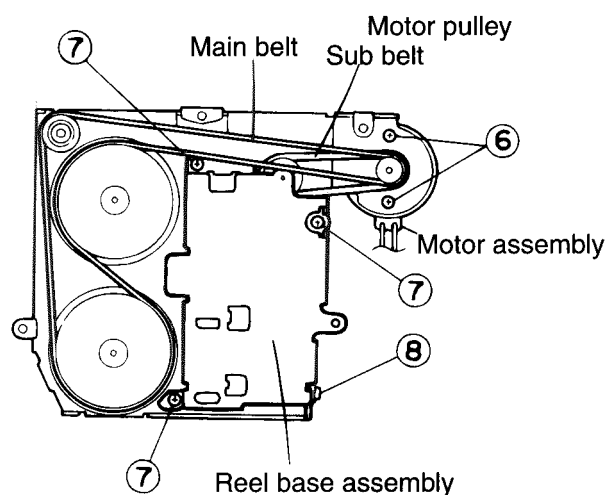

Fig. 8
■ Removing the Motor Assembly (See Fig. 8)
2. Remove the two screws (6) retaining the motor assembly.
■ Changing the Sub-Belt (See Fig. 8)
3. Remove the four screws (7), (8) retaining the reel base assembly.
■ Removing the Reel Base Assembly (See Fig. 8~10)